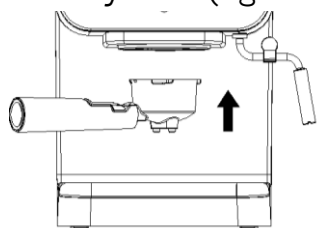

Fig. 3
5. Offer the filter holder to the brewing head and align the handle with the 'unlocked' padlock symbol on the front face of the appliance (fig. 3).